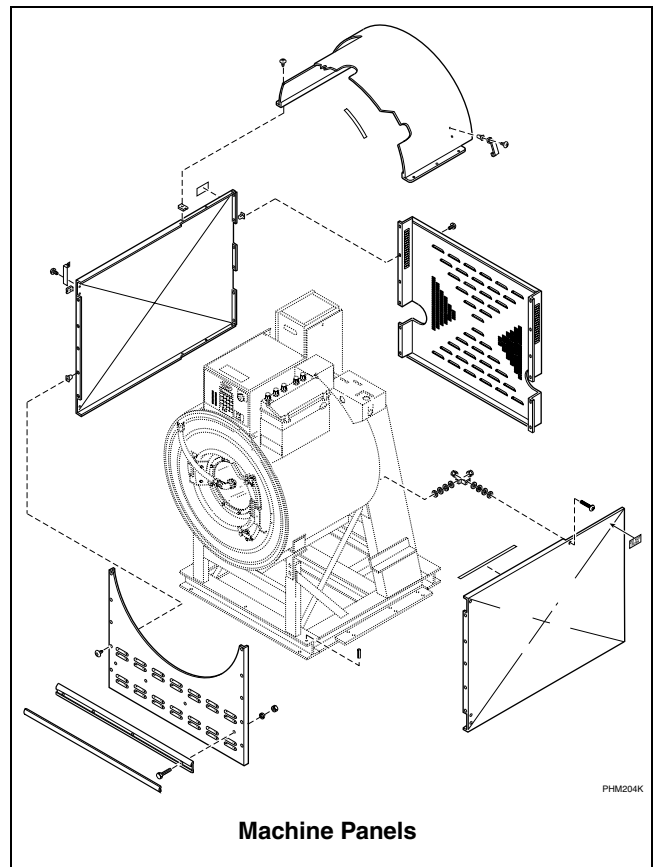

Figure 28
- Remove the front, back, top and side panels. Refer to *Figure 28*.